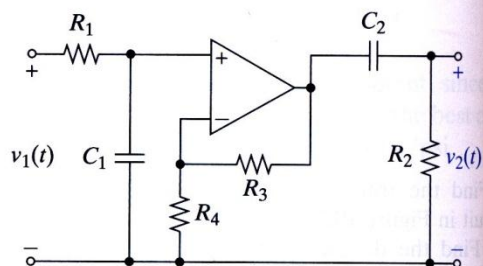

FIGURE P12-14
- 12-14 D The circuit in Figure P12-14 produces a bandpass response for a suitable choice of element values. Identify the elements that control the two cutoff frequencies. Select the element values so that the passband gain is 30 and the cutoff